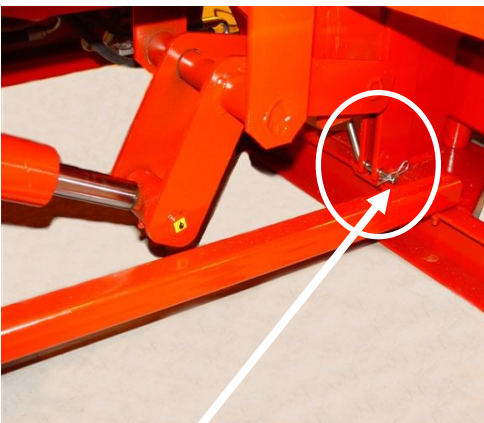

Figure 13.2a
1. Lift the splitting blade and remove the locking pin (Figure 13.2a).